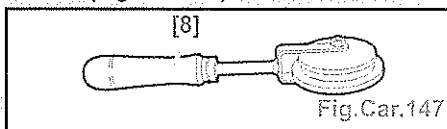

Fig.Car.147
- [8] Outil (-).1357-B de pose du joint enjoliveur (Fig.Car.147).